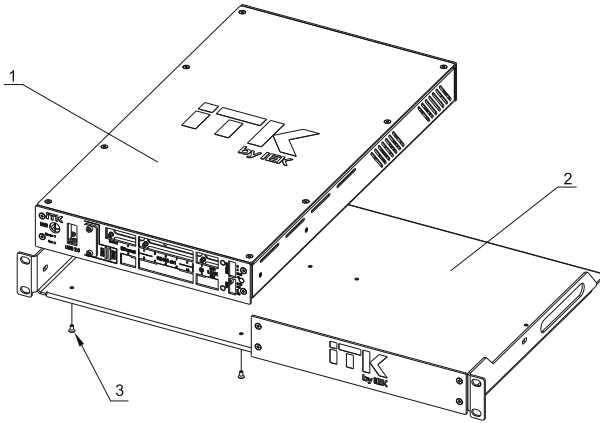

Рисунок 3 – Монтаж модуля мониторинга / Figure 3 – Mounting the monitoring module / 3 сурет – Мониторингтеу модулін монтаждау
To install the monitoring module according to figure 3, it is necessary to screw the monitoring module (1) to the product (2), using four M3 screws (3); tighten with a tightening torque of 0.5 N·m.